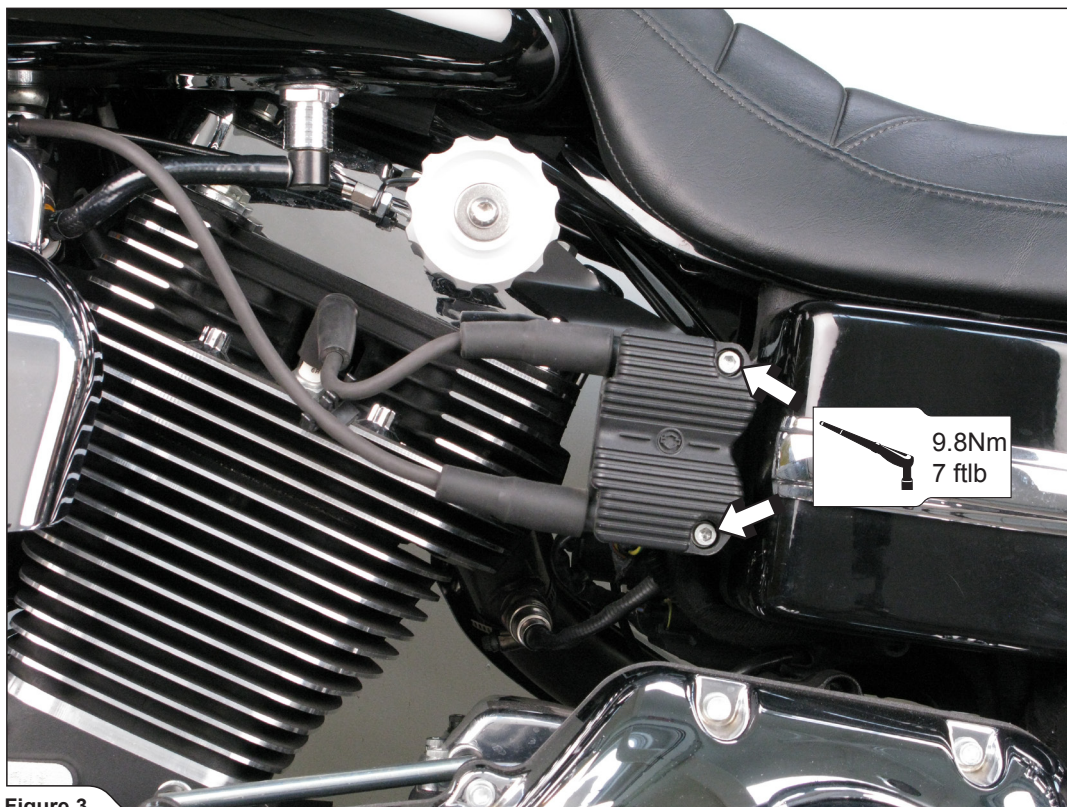

Figure 3
4. Attach the valve switch assembly behind the coil as shown and retighten the coil bolts (Figure 3).